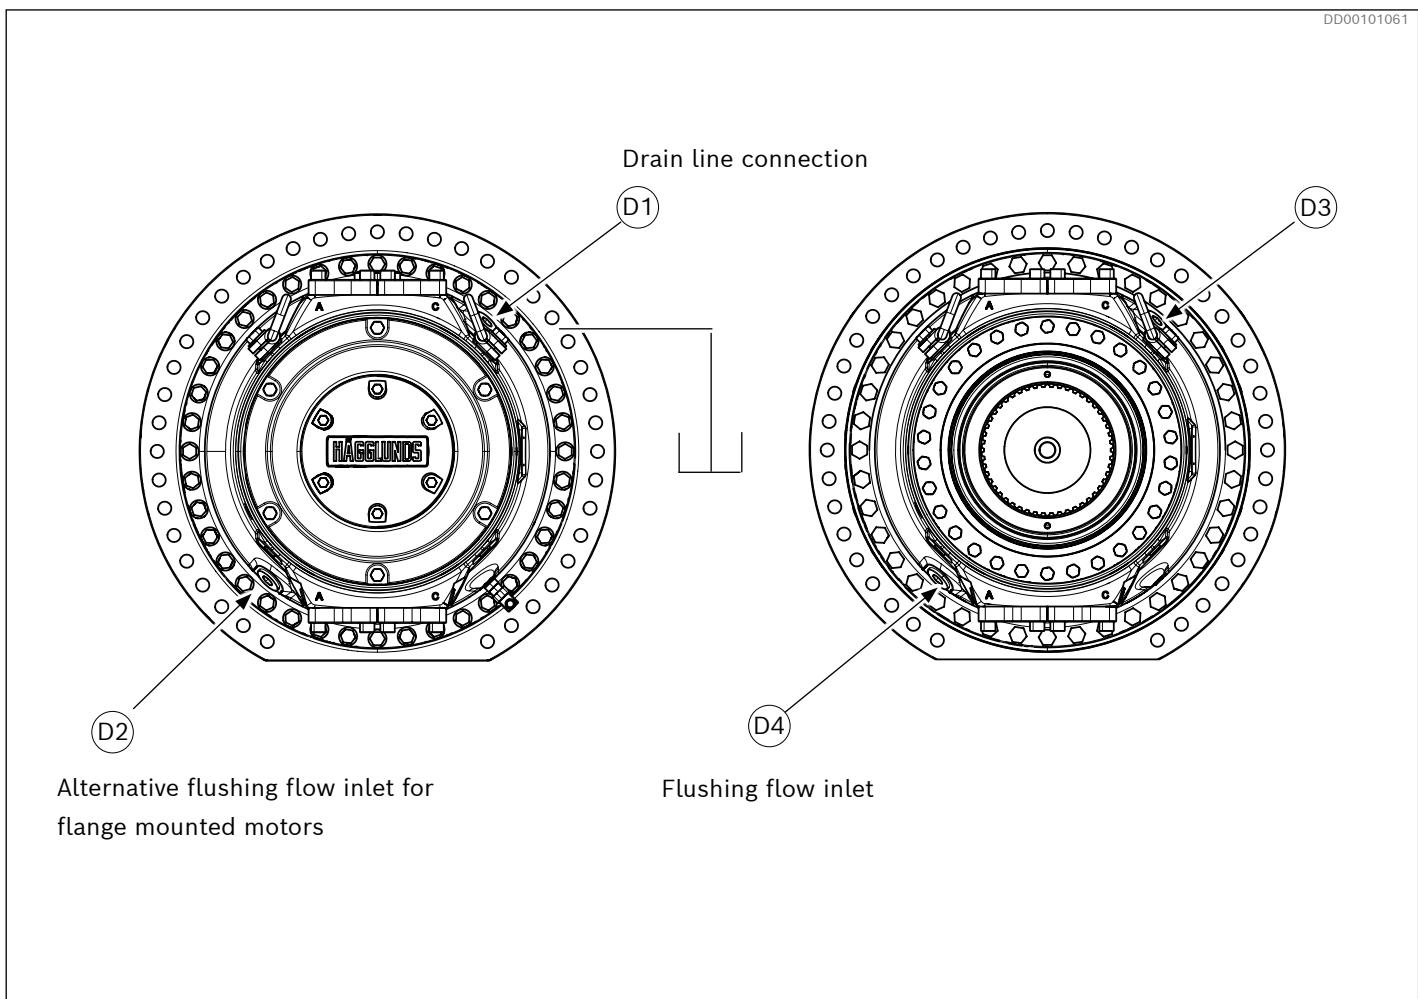
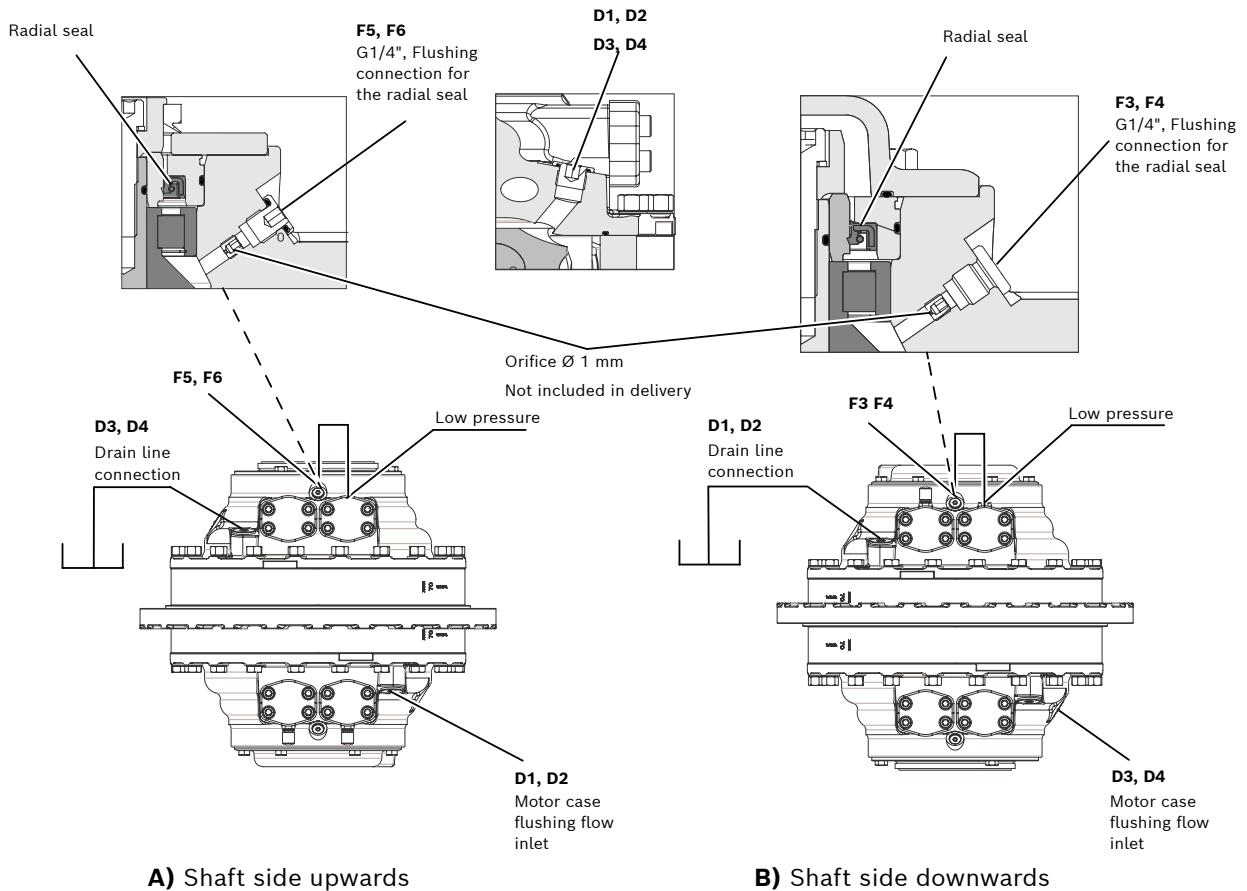

Fig. 28: Horizontal mounting
Fig. 29: Vertical mounting CBp 140
When the motor is installed with the shaft in the horizontal plane, the highest of the drain outlets D1 to D4 must always be used (see Fig. 28).
A) Motor shaft pointing upwards (See Fig. 29 alt. A) Shaft side upwards).
B) Motor shaft pointing downwards (See Fig. 29 alt. B)
For flushing flow inlets, see Fig. 28, Fig. 29 and Fig. 30.